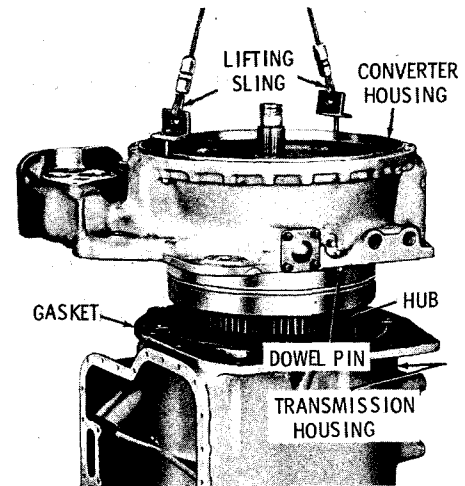

Fig. 7-71. Installing converter housing onto transmission housing (CT, CLT, VCLT) S1715
(10) Install the gasket onto the transmission housing. Attach a 2-strand lifting sling to the converter housing assembly. Lower the assembly onto the transmission. Engage the splines of the splitter clutch hub with the splines of the high-splitter clutch plates inside the transmission housing. Engage the splitter planetary pinions with the ring gear inside the transmission housing. Aline the dowel pins with the dowel pin holes in the transmission housing (fig. 7-71).